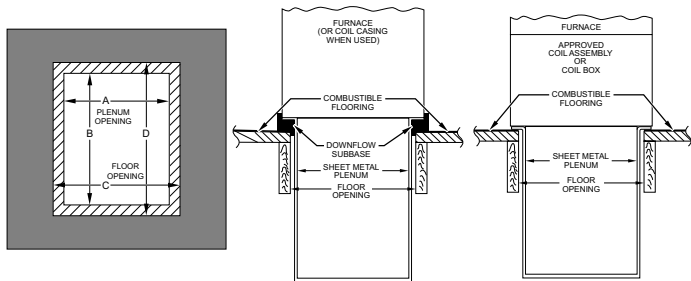

Fig. 26 – Installation on Combustible Flooring
2. Construct hole in floor per Table 6 and Fig. 26.
3. Construct plenum to dimensions specified in Table 6 and Fig. 26.
4. If downflow subbase is used, install as shown. If manufacturer's cased evaporator coil or coil casing is used, install as shown in Fig. 26.